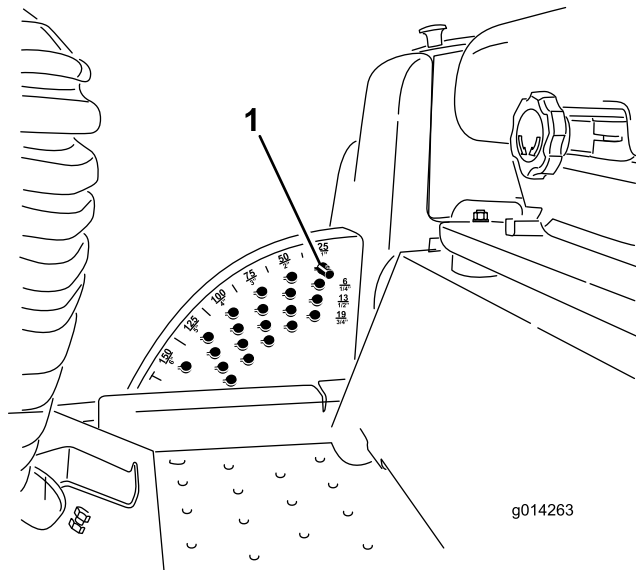

Figure 16
Note: To lock the mower deck in a raised position, raise the deck past the 6 inch (15 cm) position, remove the height of cut stop pin (refer to Adjusting the Height-of-Cut), and place the pin in the 6 inch (15 cm) height-of-cut position (Figure 16).
1. With the engine running, push back on the deck lift switch until the mower deck is fully raised and **release the switch immediately** (Figure 16).
2. To adjust, rotate the stop pin until the nub on it lines up with the slots in the holes in the height-of-cut bracket and remove it (Figure 16).
the pin, and rotate it down to lock it in place (Figure 16).
Note: There are four rows of hole positions (Figure 16). The top row gives you the height of cut listed above the pin. The second row down gives you the height listed plus 1/4 inch (6 mm). The third row down gives you the height listed plus 1/2 inch (12 mm). The bottom row gives you the height listed plus 3/4 inch (18 mm). For the 6 inch (15.8 cm) position there is only one hole, located in the second row. This does not add 1/4 inch (6 mm) to the 6 inch (15.8 cm) position.